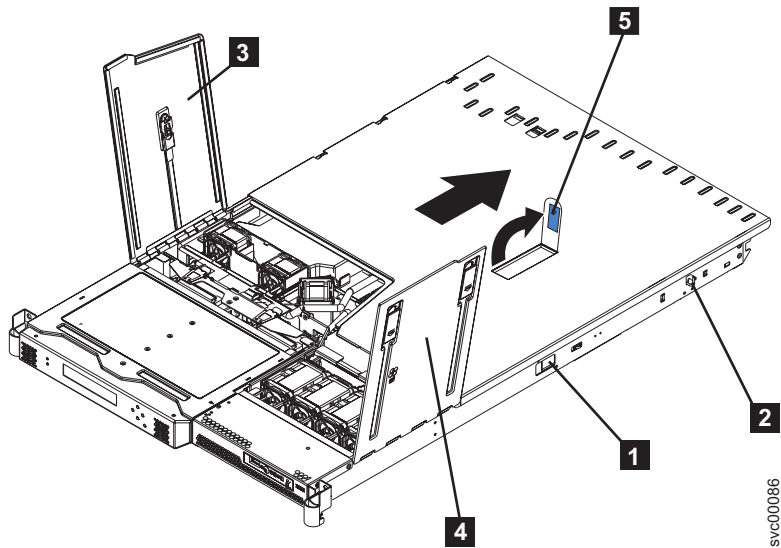

Figure 80. SAN Volume Controller 2145-8F2 or SAN Volume Controller 2145-8F4 with fan doors open
- b. Slide both side release latches (left and right) toward the front of the node. Make sure that both rail-lock pins **2** are in a vertical position, pull the node out, and remove it from the rack. See Figure 80.